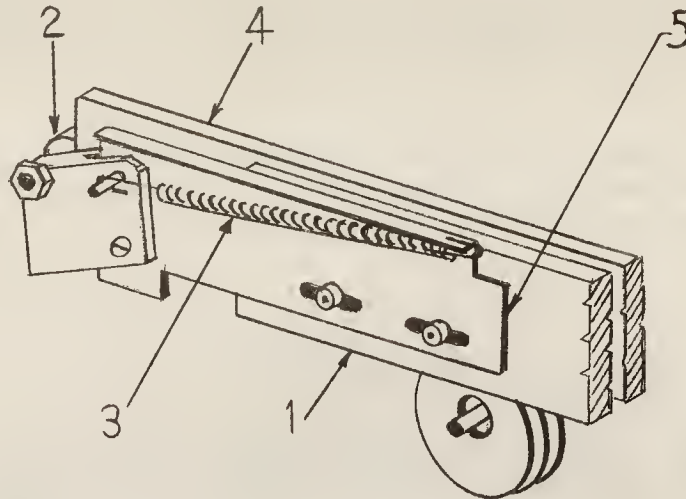

FIG. 14
(T) Line Measuring Slide (Assembler Slide) Inhibitor (Fig. 14)